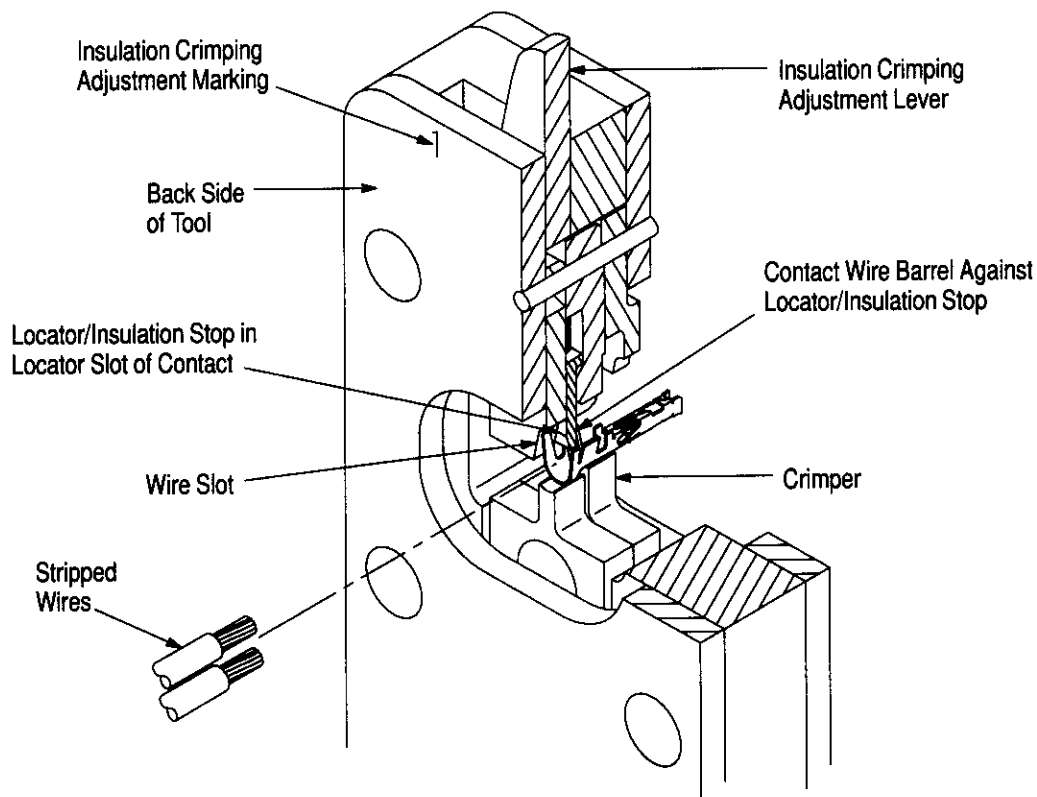

Figure 3
1. Hold tool so that the BACK side faces you. See Figure 3.
1. Slide the insulation crimping adjustment lever to Position 3 (marked on the back side of the tool). Refer to Figure 3.